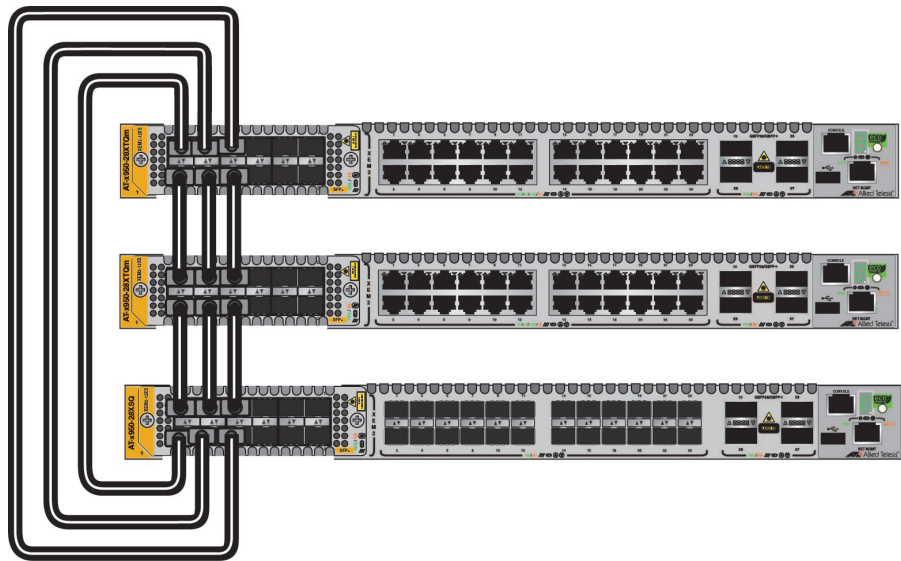

Figure 34. Example Trunk Using XEM2-12XS Line Cards
- ❑ Figure 34 is an example of a stack of three switches with a trunk from ports on XEM2-12XS Line Cards.